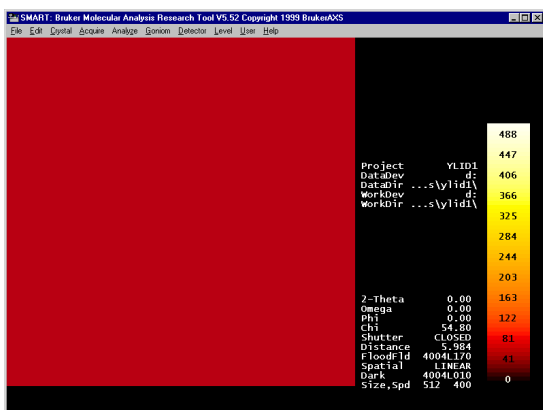

Figure 4-15. SMART screen with loaded data
8. Select Small Molecule, then press OK. SMART loads the system defaults and displays a SMART screen. This screen will contain the sample-to-detector plane distance, the current goniometer angle settings, current dark and flood files, and information concerning your project and its working and data directories. No unit cell information displays. (Figure 4-15.)